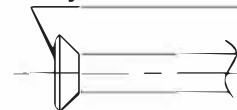

Fig. 15
- When making a flare connection, coat the flared inner surface only with ether oil or ester oil. (Refer to Fig. 15)